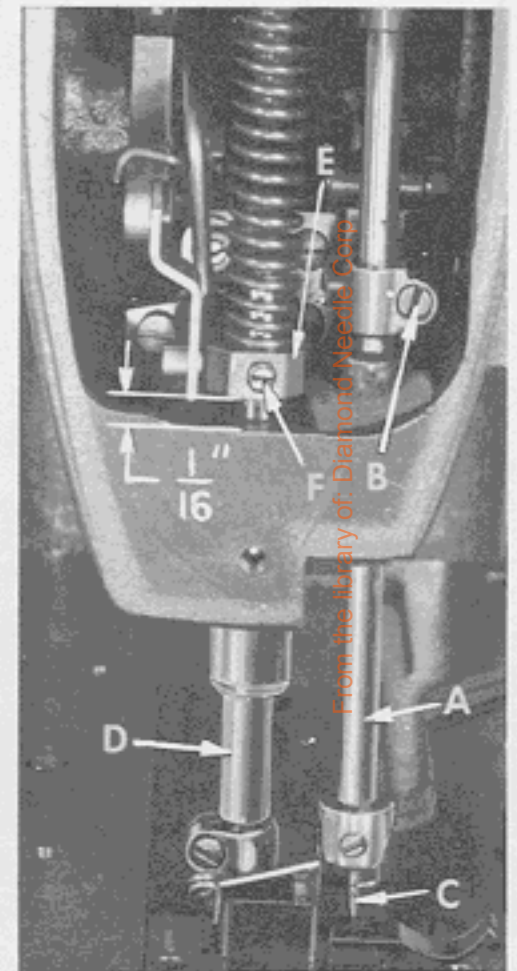
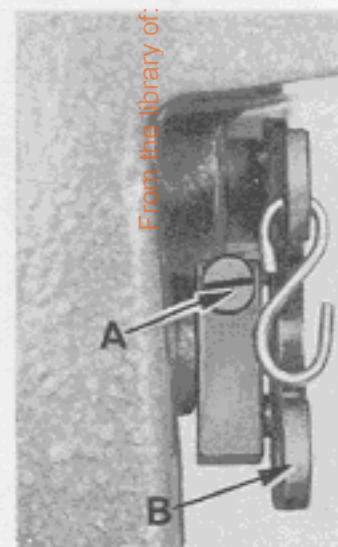

Fig. 4
Fig. 12
Align the needle bar (A, Fig. 4) and set to height, using the proper test pins and test plate of the right gauge.
If test plate and test pins are not available, insert a new set of needles (Type and Size as required) and align the needle bar so the needles center in the needle holes of throat plate. To align needle bar, loosen needle bar clamp screw (B, Fig. 4) and turn bar as required. Tighten clamp screw.
The height of the needle (C, Fig. 4) is correct when the top of its eye is $\frac{3}{64}$ inch below the underside of the looper, with the looper point flush with the left side of the needle. If adjustment is necessary, loosen screw (B) and move needle bar (A) up or down as required and retighten screw. Care should be taken not to disturb the alignment of the needle bar when moving the needle bar either up or down.
If adjustment is needed, loosen tension release lever screw (A, Fig. 12), located at the back of the machine and move tension disc separator as required. Retighten screw. After adjustment there should be no binding at any point.
The height of the presser bar (D, Fig. 4) is set correctly if it is possible to remove the presser foot when the foot lifter lever (B, Fig. 12) is fully depressed. Also there should be approximately $1/16$ inch clearance between lower surface of the presser bar connection and guide (E, Fig. 4) and the bottom surface of head opening in the bed when the foot lifter lever is released and the presser foot resting on the throat plate, with the feed dog down below the throat plate.